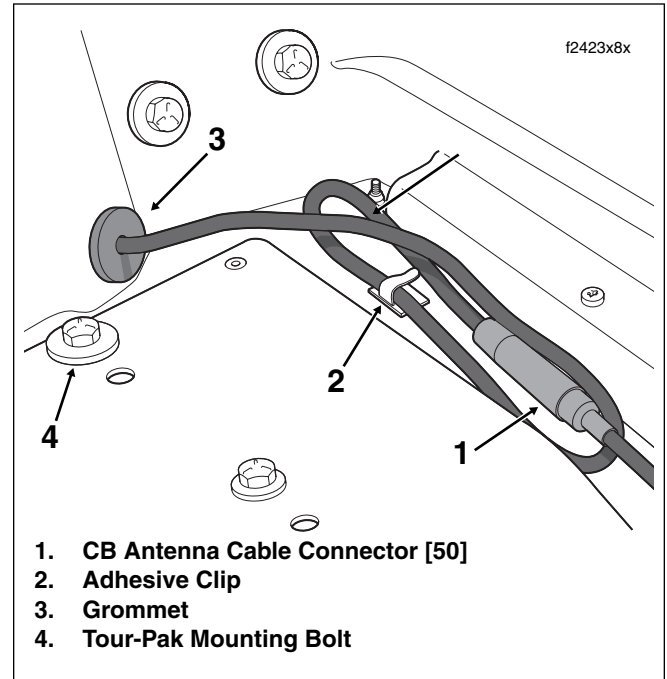

Figure 8-194. Disconnect CB Antenna Cable Connector
10. Disconnect CB antenna cable connector [50]. Release cable from front adhesive clip inside Tour-Pak. See Figure 8-194.
6. Feed CB antenna cable connector through hole at front of Tour-Pak. Capture cable in grommet. Install grommet in hole with the larger OD facing inside. See Figure 8-194.